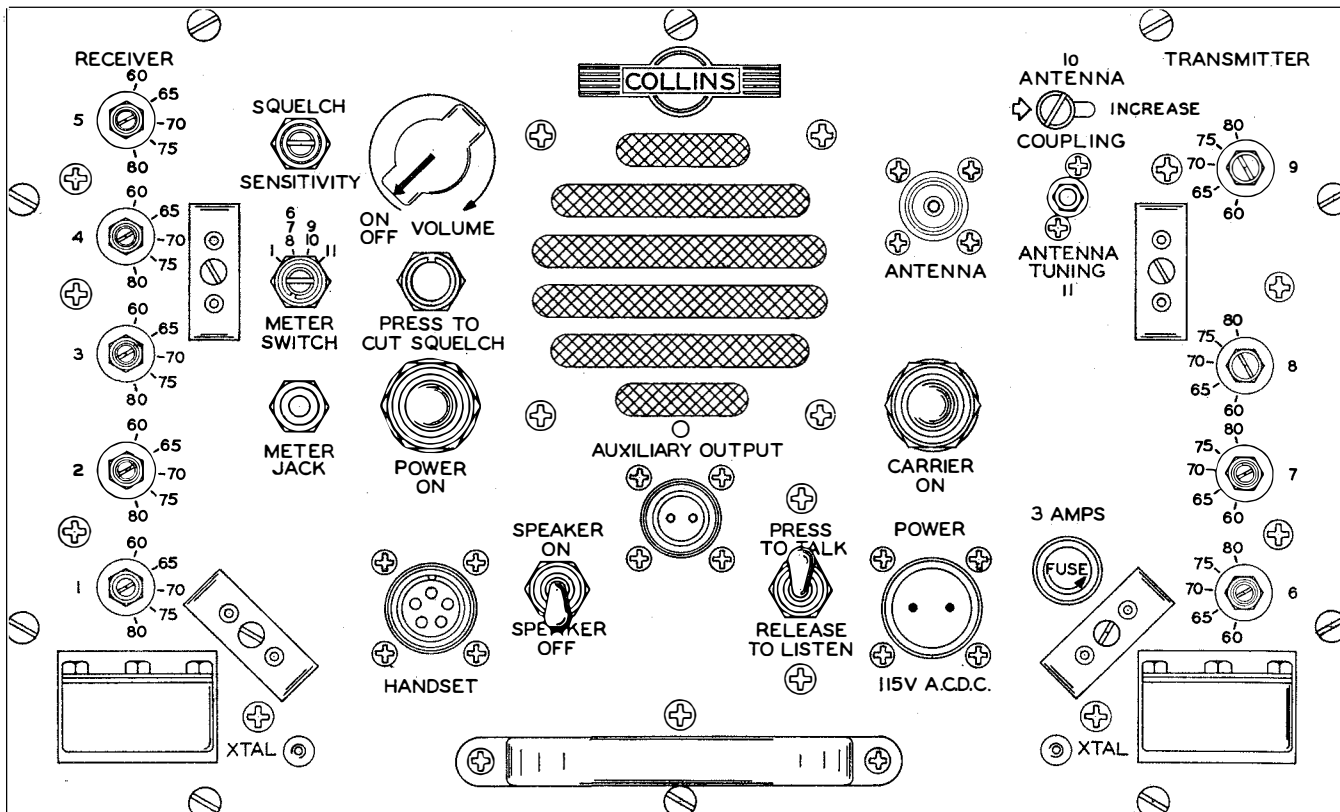

Figure 3-1—Panel Controls
1. OPERATING PROCEDURE. (Refer to figure 3-1)